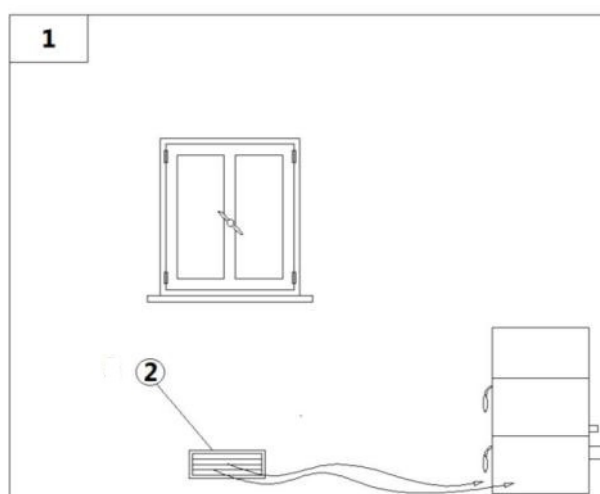

Fig. 6 - Direct air inflow
LEGEND Fig. 6 page 9
- The air inflow from outside to the inner occurs directly, through an opening on the external wall of the room (see **Fig. 6 page 9**).